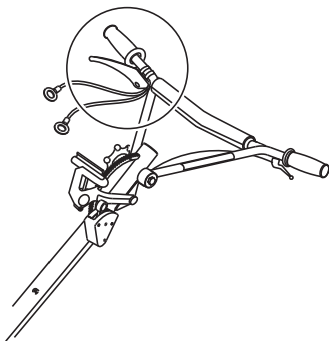

Figure 12. Repositioning the Lever
4. If so equipped, reposition the Operator Presence Lever on the handlebars, (Figure 12).